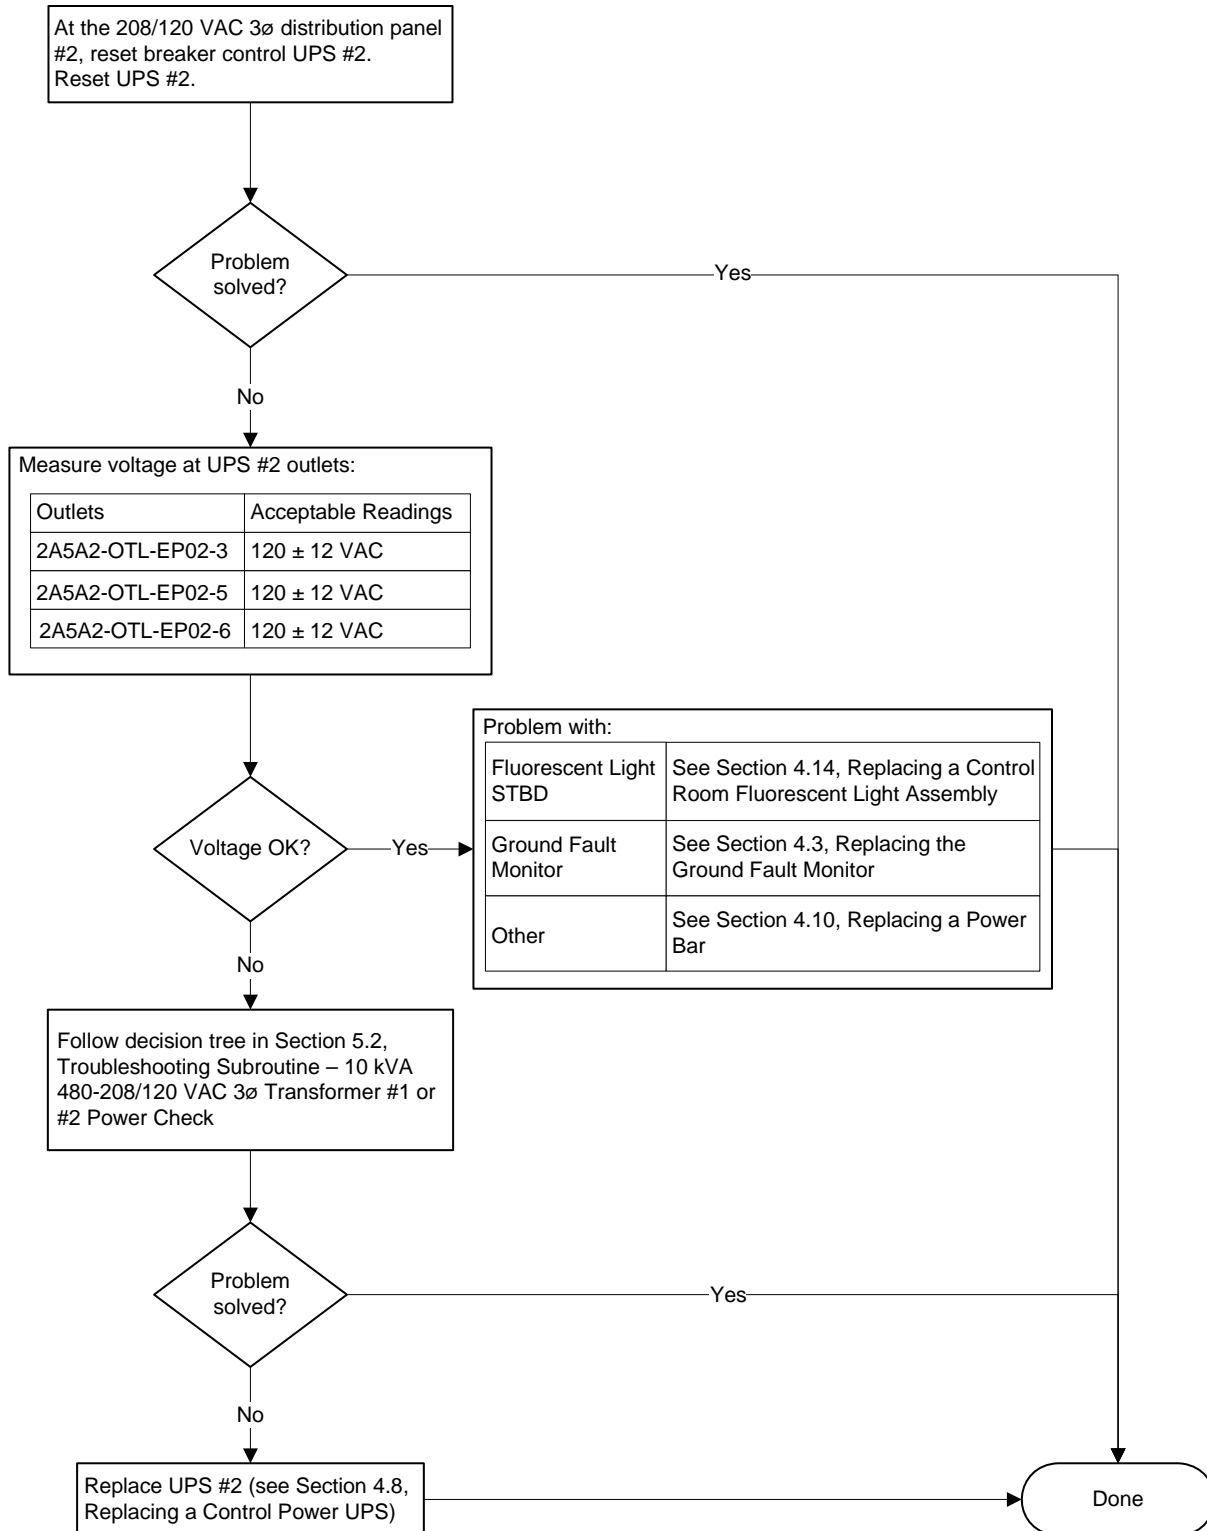

Figure 6 Troubleshooting – Unit Plugged in UPS #2 Doesn't Work
1. Follow the troubleshooting steps in Figure 6.